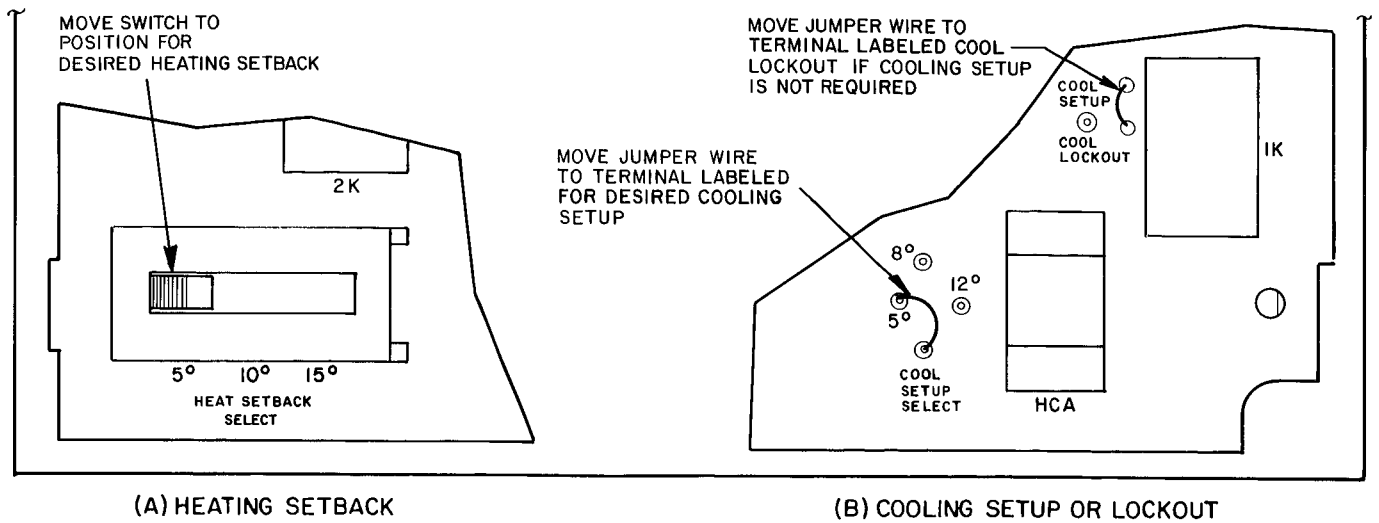

Fig. 15 — Setback/Setup Module (Partial)
3. On units equipped with the Energy Management option, move the COOL SETUP SELECT jumper wire to the desired setting (5°, 8°, or 12°). If cooling is not desired during the unoccupied periods, move jumper wire from COOL SETUP to COOL LOCKOUT. See Fig. 15.
2. On units with Energy Management option, position the HEAT SETBACK SELECT switch in the setback/setup module to the desired position (5°, 10°, or 15°). See Fig. 15.